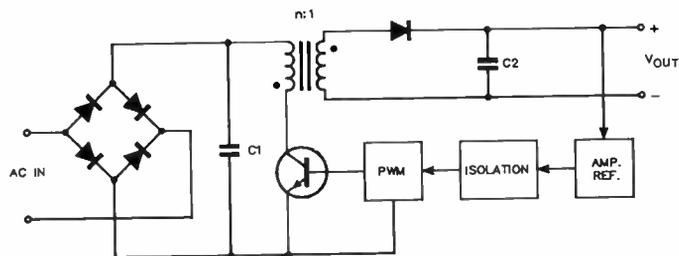

Figure 5.
The general form of a typical off-line flyback converter is illustrated in Figure 5. Note that no mains transformer is used, the incoming ac being directly rectified.
The forward converter is very similar to the flyback converter, as can be seen if you compare Figure 7 with Figure 5. However, there are some fundamental differences. The addition of the output inductor (L) and diode D2 is what makes the difference. Here, energy is stored in L rather than the transformer. As Q1 switches the primary current on and off, D2 conducts each time Q1 conducts, charging C via L and supplying current to the load. Diodes D1 and D3 are reverse biased at this time. When Q1 is off, the decaying current in the transformer primary induces a voltage in the two secondaries opposite to that when Q1 is on. Now D2 is reverse biased and D1 conducts, returning the transformer magnetising current to the supply. Also, as D2 is not conducting, no current flows to C via L and the collapsing field in L forward biases D3, maintaining load current and the charge on C.
As you can see, and as the name suggests, power is transferred during the ON-cycle of the switching element, unlike the flyback converter. Output regulation can be effected using pulsewidth modulation control in the same manner as Figure 5.
Regulation is effected using pulse-width modulation as illustrated in Figure 2, and the sort of feedback circuit shown in block diagram form in Figure 5. The buck-regulator is used in voltage step-down applications and is very useful where the output voltage may vary over a range from zero to within a volt or two of the dc source.